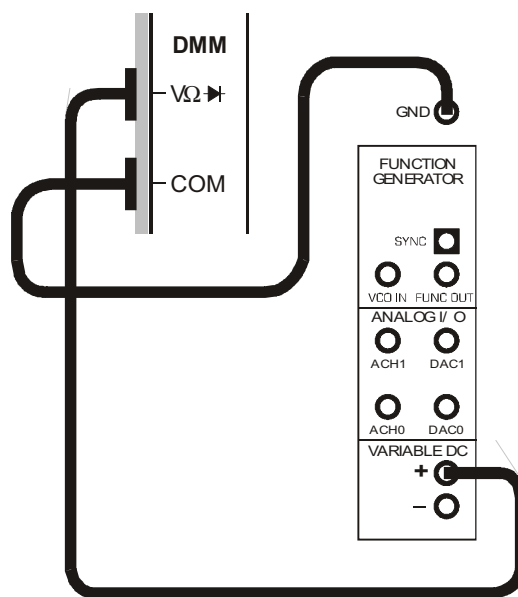

Figure 6
17. Connect the set-up shown in Figure 6 below.